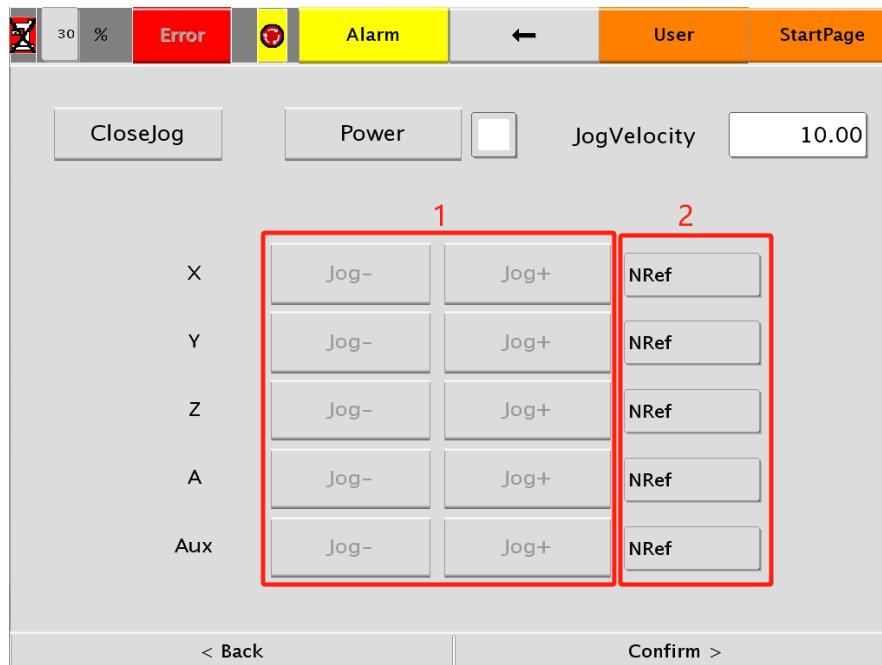

Figure 11
Clicking on the " **Cart Jog**" will bring up the interface as shown in **Figure 11**. " **Cart Jog**" is to control the linear movement of the robot by clicking the " **Jog -**" " **Jog +**" corresponding to each action, to realize the robot in the X-axis, Y-axis, Z-axis direction.
3, by clicking on the " **Jog -**" " **Jog +**" can move the robot arm, end and lifting axis to the specified position, when the commissioning officer is facing the operating screen, the machine forward, left, up for the " **Jog +**", backward, right, up for the " **Jog -**" (**Fig. 11, area 1**) .
4、Display the current position value of the robot arm (**Fig. 11, area 2**).